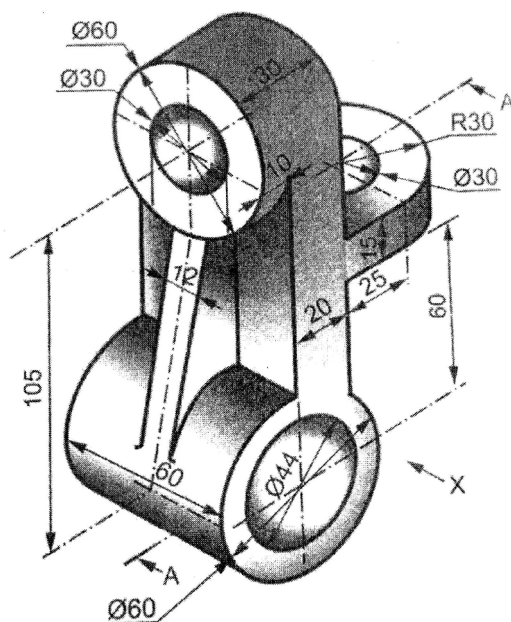

Fig. 2
4. Fig. 2 shows pictorial view of an object, using first angle method of projection, draw :